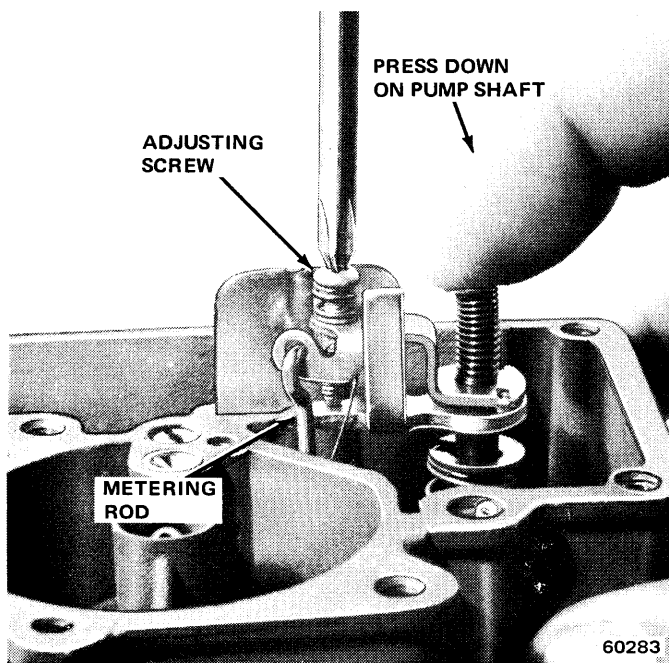

Fig. 4-29 Metering Rod Adjustment
(1) Remove carburetor air horn and gasket from carburetor.
(2) Back out idle speed adjusting screw until throttle plate is closed tight in throttle bore.
(3) Press down on end of pump diaphragm shaft until assembly bottoms.
(4) While holding diaphragm assembly, turn rod adjustment screw until metering rod just bottoms in body casting (fig. 4-29).